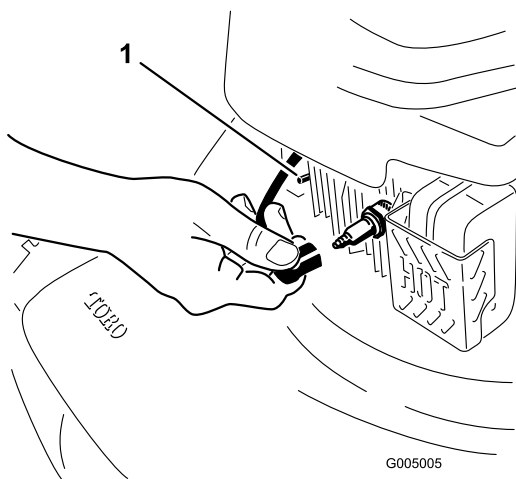

Figure 31
2. Disconnect the spark plug wire from the spark plug and hook it onto the retaining post (Figure 31) before performing any maintenance procedure.